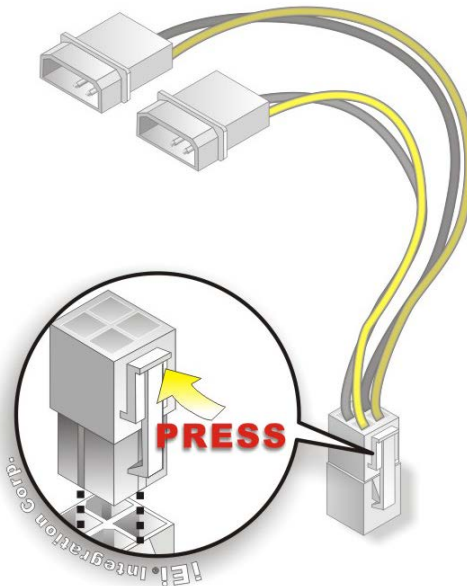

Figure 4-19: Power Cable to Motherboard Connection
Step 2: **Connect the power cable to the motherboard.** Connect the 4-pin (2x2) Molex type power cable connector to the power connector on the motherboard. See Figure 4-19.